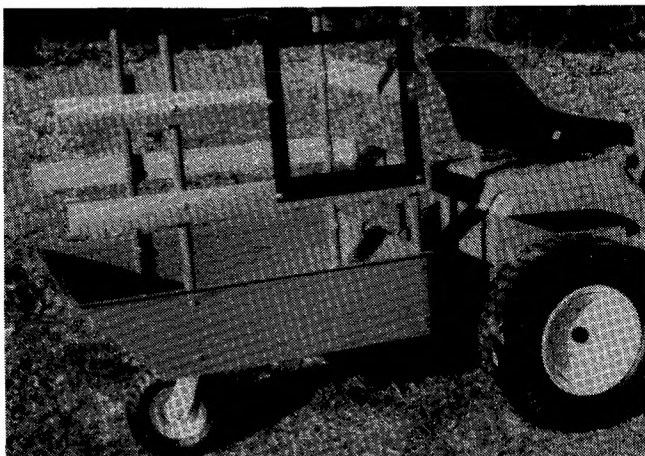

Figure 21.
- b. The cover can be removed entirely from the cart. Unhook the rubber strap at the back of the cart and pull the pockets at the end of the cover away from the ends of the boards before lifting the entire cover off the cart (figure 21).